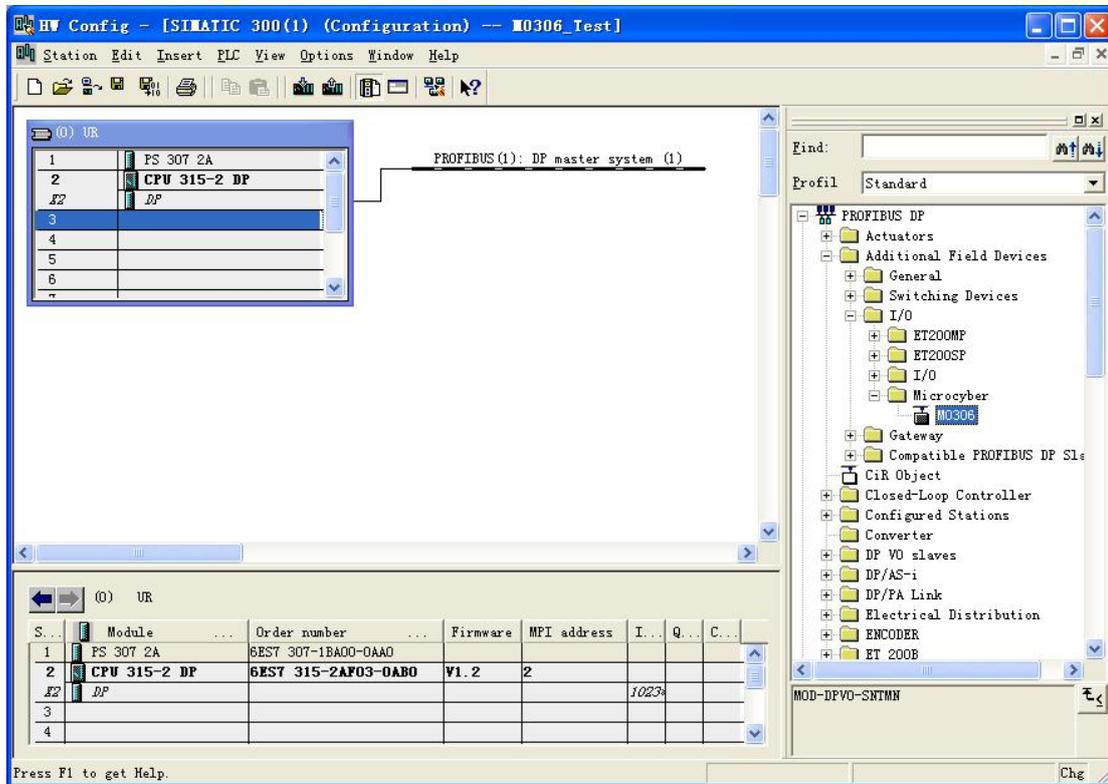

Figure 4.3 Correctly installed equipment
1) After successful installation for GSD, the module shall appear in the tree list at the right side of the hardware configuration window, as shown in Figure 4.3: